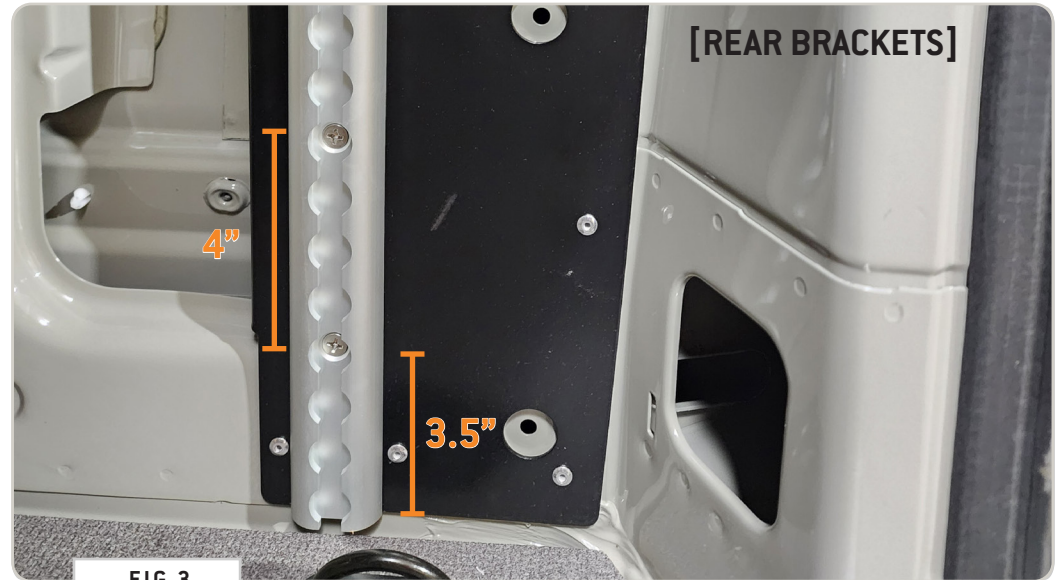

FIG 3
2.1 Identify L-Track Extrusions: See FIG 3 and 4 for relevant dimensions for determining which **L-Tracks** are spaced for the **Front and Rear Bed Brackets**.